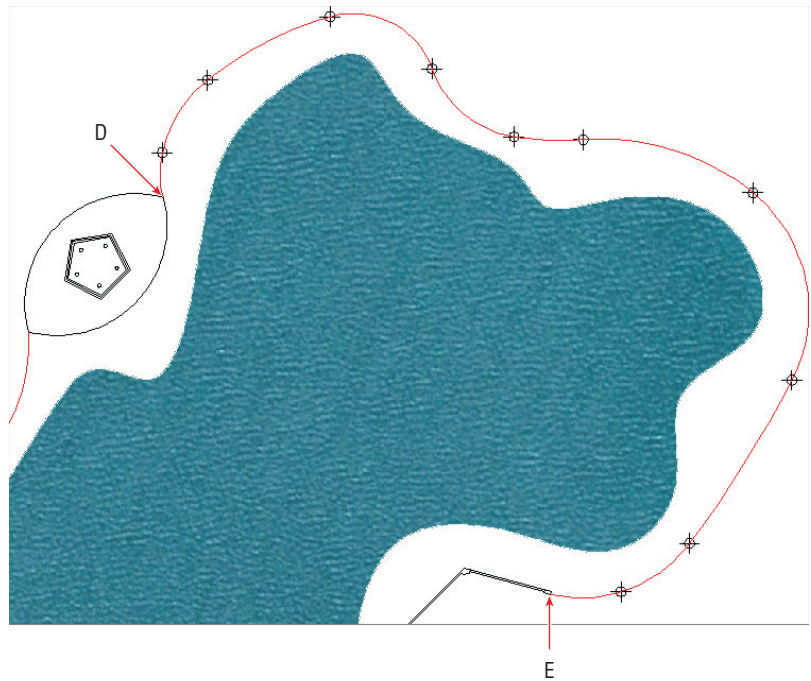

FIGURE 5.4 Drawing another polyline around the right half of the lake
7. Press the spacebar to repeat the last command. Click point D shown in Figure 5.4, type **A** (for Arc), and press Enter.
9. Click each subsequent node around the right side of the lake until you reach point E in Figure 5.4. Press Enter.